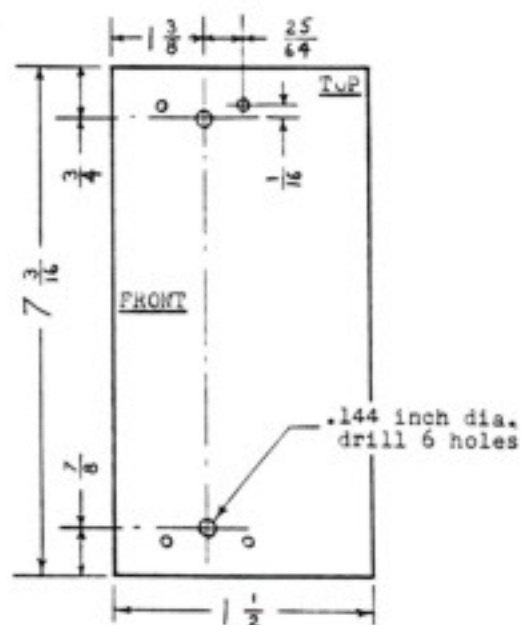

Figure 1. Template-Handle mounting
- (1) Handle assembly #25044 is replaced by handle #33779-G1 and requires the use of two new handle brackets #30374-P1, two handle bracket nuts #30375-P1, and two screws #104B6RB.
- (2) To position the handle brackets, place the template (Fig. 1) on the left side of the camera, align the top, bottom, and front of the template with the camera and drill six 0.144" holes as indicated. Position handle bracket nuts from inside of camera case and clip off the ends protruding from outside of camera box until approximately 1/32" of the end protrudes. Mount handle bracket and secure with screw.